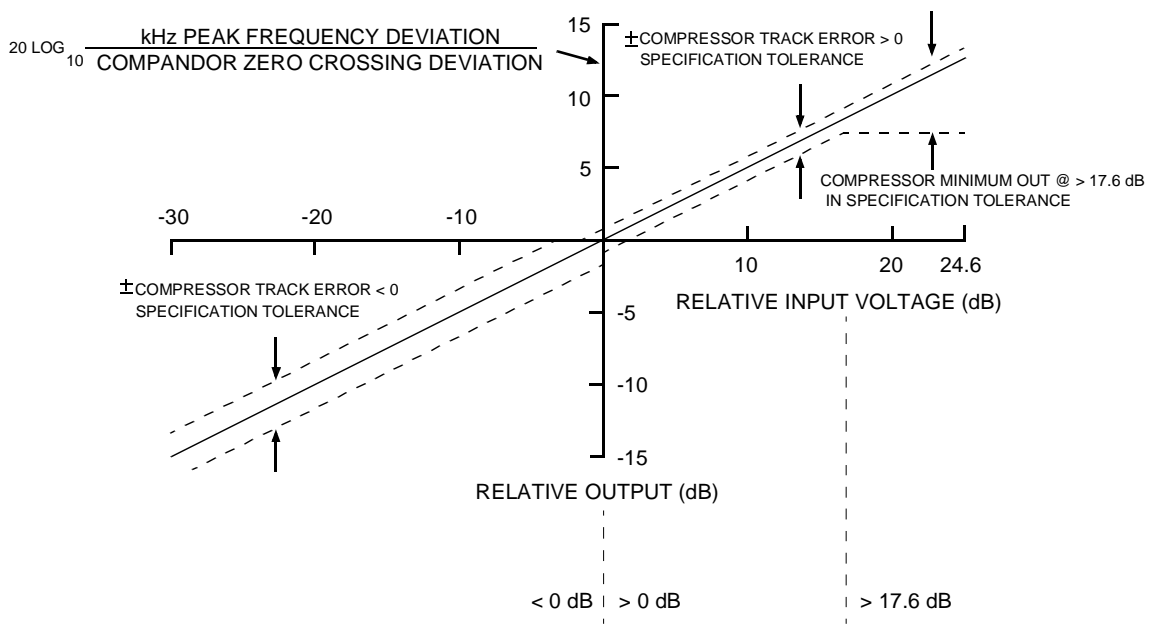

Figure 29 Compressor Curve
**Example** -- If your standard sets the output voltage tolerance to  $\pm 1.0$  dB from the compressor curve in figure 29 on page 180, enter -1.0 as the lower limit and 1.0 as the upper limit.
**Example --** If your standard sets the output voltage tolerance to  $\pm 0.5$  dB from the compressor curve in figure 29 on page 180, enter  $-0.5$  as the lower limit and  $0.5$  as the upper limit.